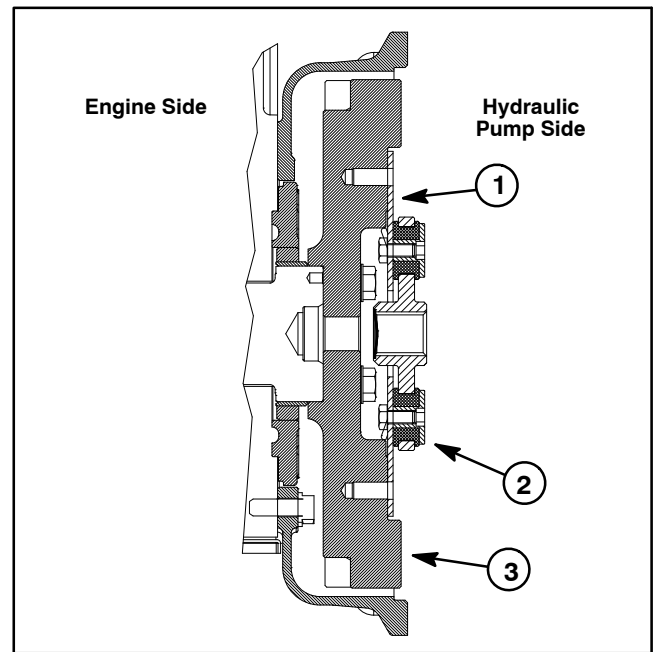

Figure 17
1. Position spring coupler to engine flywheel and align mounting holes. Make sure that coupling hub is away from engine flywheel (Fig. 17).
2. Secure coupler to flywheel with eight (8) cap screws and hardened washers. Torque cap screws in a crossing pattern from **29 to 33 ft-lb (40 to 44 N-m)**.
3. Position flywheel plate to engine. Make sure that boss on plate is orientated down. Secure flywheel plate with eight (8) cap screws (item 7) and hardened washers. Torque cap screws in a crossing pattern from **29 to 33 ft-lb (40 to 44 N-m)**.